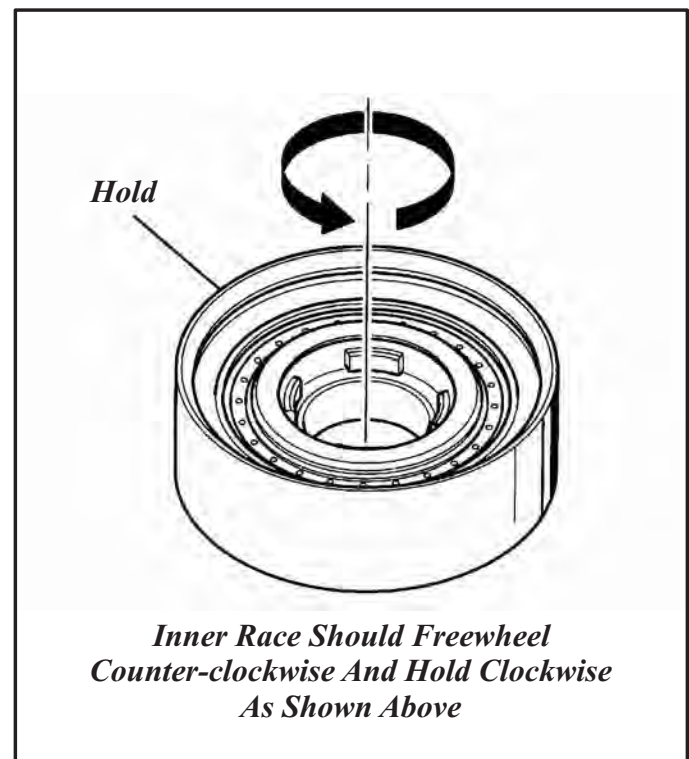

Figure 102
8. Position the 1-2 support assembly on bench as it would be in unit (See Figure 102).
9. While holding the 1-2 roller clutch support, the inner race should rotate **counterclockwise** only, as shown in Figure 102.